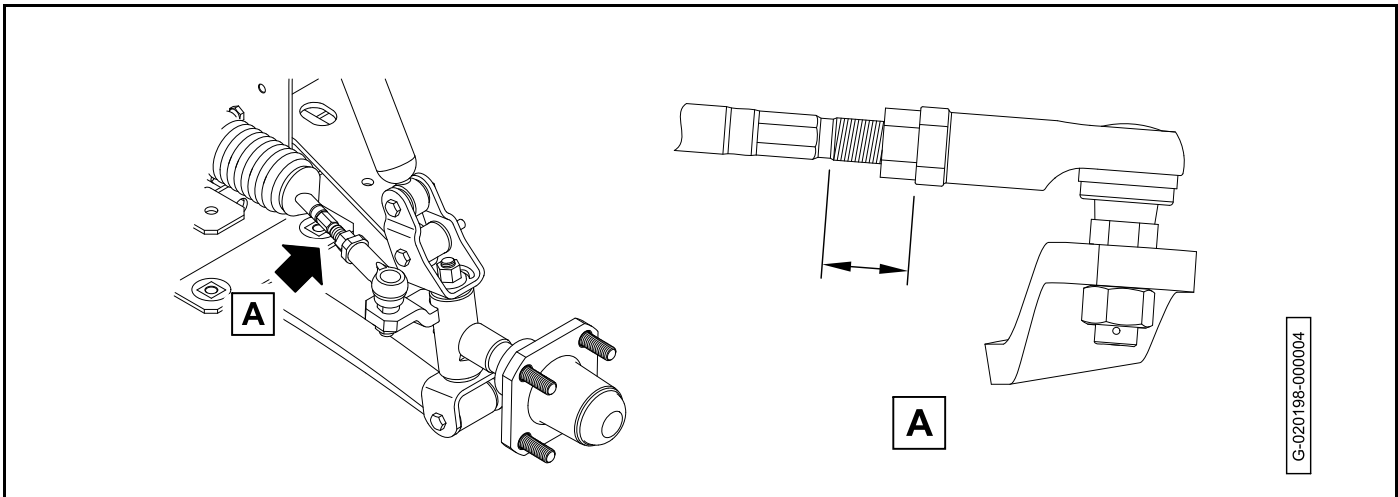

Figure 7-13
- 9.4. Maintain an equal distance from the ball joint to the end of the threads on each drag link (**Figure 7-13**).